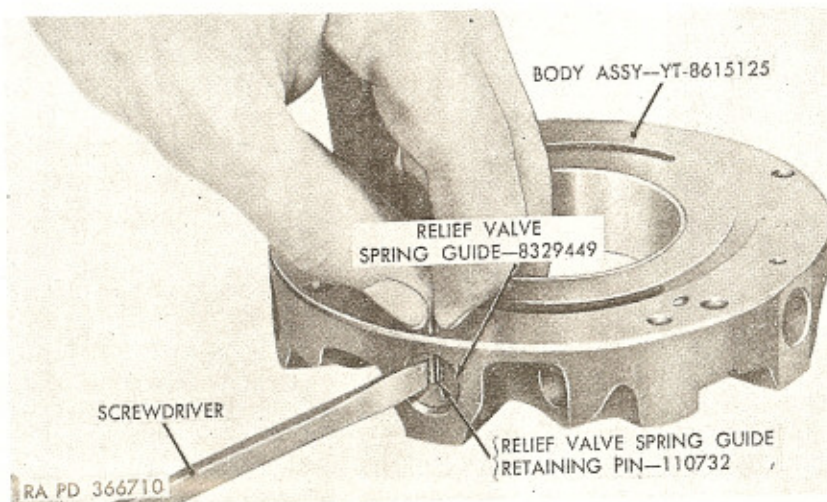

Figure 88. Removing or installing relief valve retaining pin (301MG).
c. On 301MG transmission, press on relief valve spring guide (Q) with a screwdriver (fig. 88) while relief valve spring guide retaining pin (M) is being removed. Remove relief valve spring guide (Q), relief valve spring (P), and relief valve (N) from pump body.
b. On Model 301MG transmission, install relief valve (N), relief valve spring (P), and relief valve spring guide (Q). Use a blunt tool such as a screwdriver to compress spring (fig. 88) while installing relief valve spring guide retaining pin (M).
c. Install intake pipe seal (L) in body, being sure it is carefully seated in groove in body.
d. Install inner and outer priming springs (K and J) in pump cover; then install pump slide (G). Check springs for location by moving pump slide against spring pressure, and then releasing. Spring pressure should return slide against opposite side of cover.
e. Install one vane ring (D); then install pump rotor (F) with previously marked face of rotor up.